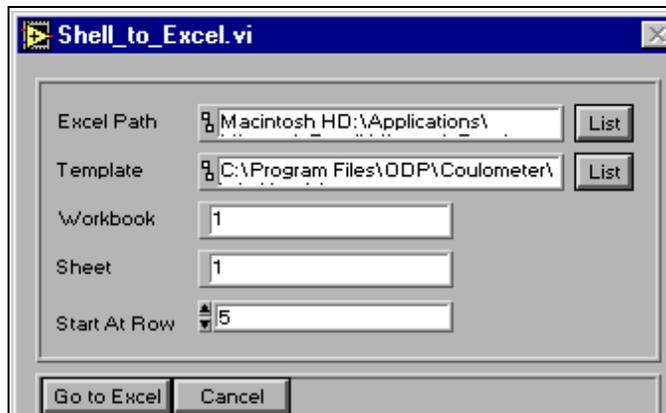

Figure 25. Exporting samples to Excel.
1. When your sample list is complete, click on the **Excel** button. This opens the "Shell_to_Excel" window (see Figure 25).